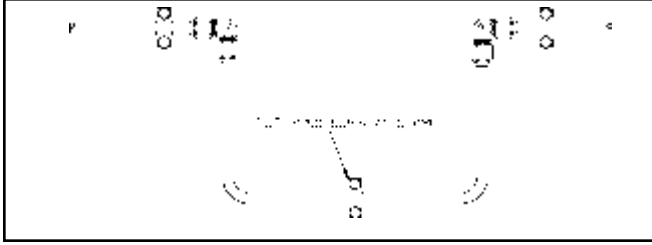

Fig. A22 — U-Bend Allowing Expansion and Contraction
- **Allow for expansion and contraction** — Use a “U” bend or a hose in long lines to allow for expansion and contraction. (See Figure A22.)